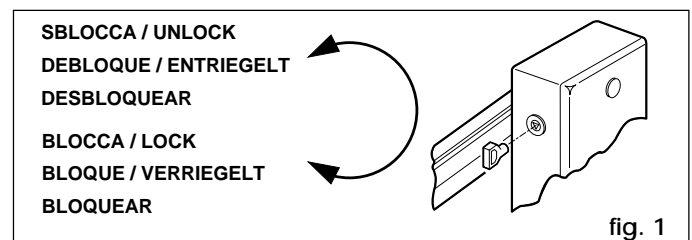
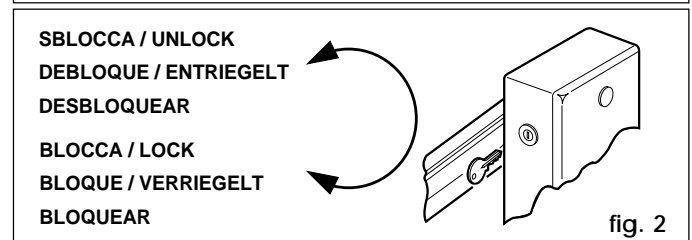

fig. 1
fig. 2
- Insert the standard key (fig. 1) or the personalised key (fig. 2) in the lock and **turn anticlockwise** by one revolution.